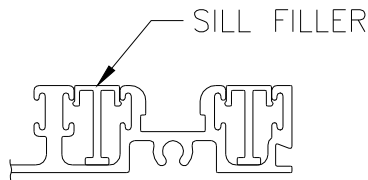

Figure 27:
5. Install sill fillers into sill tracks except where it will interfere with the sliding panels (Figure 27).